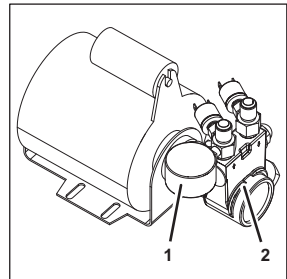

Figure 59
1. Turn the pressure manometer (Figure 59/1) and remove from the carbonator pump (Figure 59/2).
2. Apply Loctite to the new pressure manometer (Figure 59/1).
3. Attach the new pressure manometer (Figure 59/1) to the carbonator pump (Figure 59/2) by turning it.